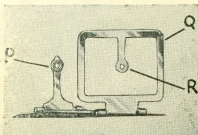

Fig. 2
On top of the camera is the "view finder." This is composed of two parts P, and Q, (fig. 2). For taking pictures raise vertically these two parts P, and Q, as shown in figure 2, and with the eye within about one inch of the rear view finder (P) sight through the rear